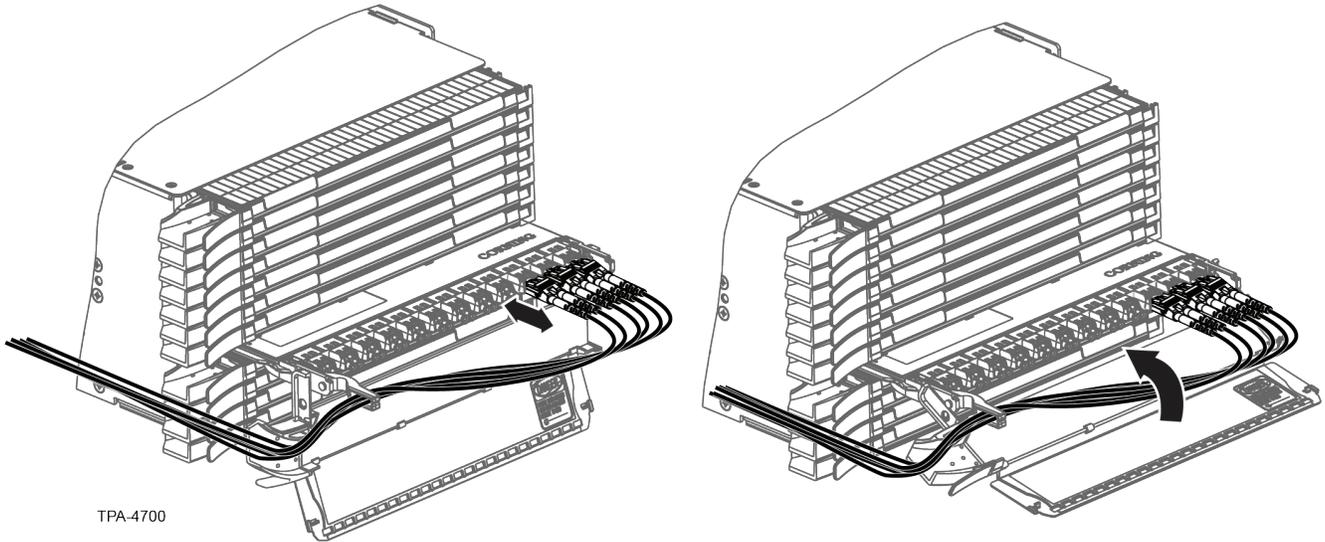

Figure 65
- Step 4:** Disconnect jumpers as required. Clean adapters and connectors per standard company practices or as described in Section 9. Reconnect jumpers (Figure 65 left).
- Step 5:** Raise handle. Dress jumper cords to the side of the cassette (Figure 65 right).